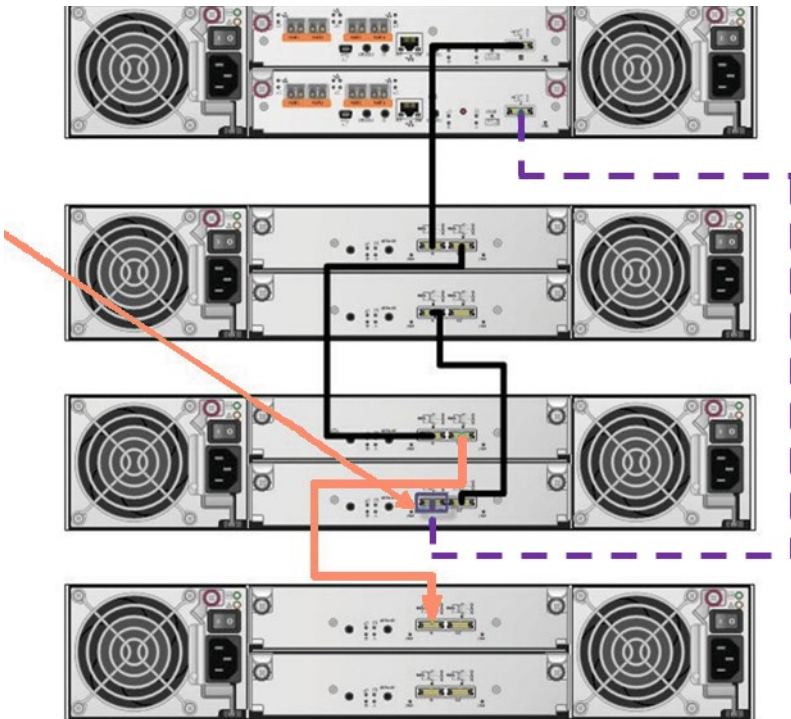

**Figure 31.** Adding new SAS cable to extend a channel to the additional shelf
4. Connect the new SAS cable (Figure 31, orange cable) from the A port (Out) of the current MSA storage system to the A port (In) of the new disk enclosure.